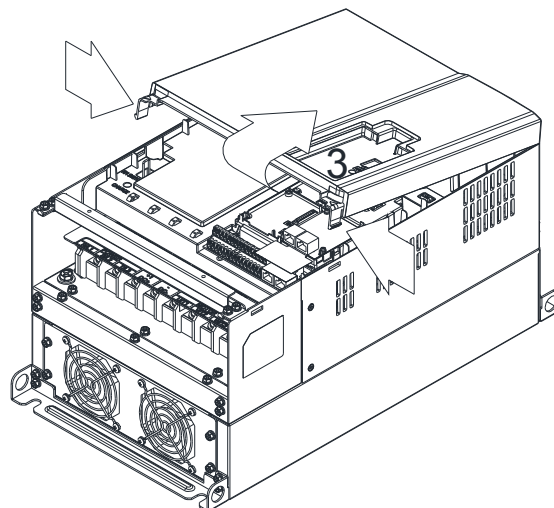

Figure 2
2. (Figure 2) Loosen screw 3, press the tab on the right and the left to remove the cover. Screw 3 『Torque: 6~8 kg-cm / [5.2~6.9 lb-in.] / [0.6~0.8 Nm]』